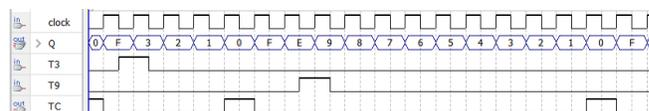

Figure 16. Timer simulation.
- Create a waveform file and test the timer. Figure 16 shows the relation between T3/T9 triggers versus TC and counter values.